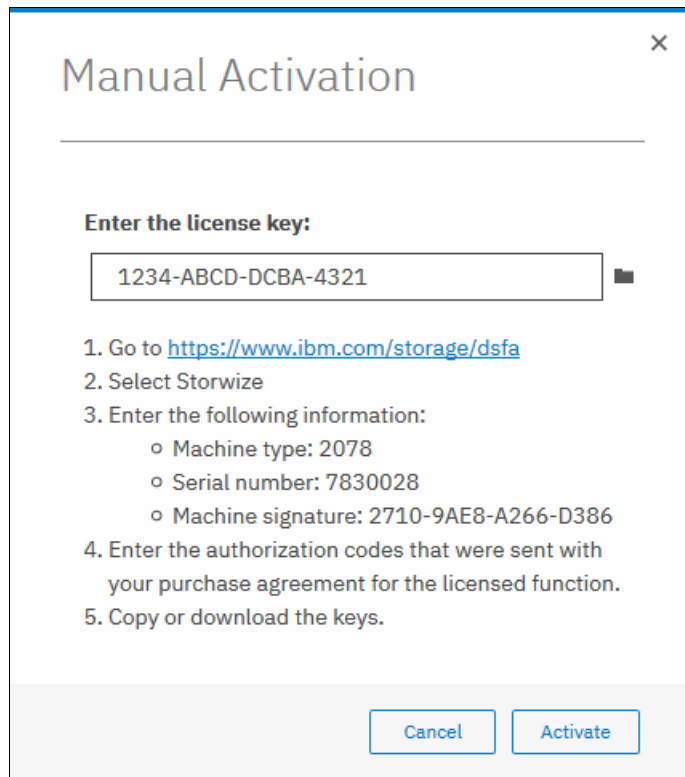

Figure 13-18 Entering an encryption license key
3. You can enter or paste the license key or click the folder icon and upload it to the storage system that the license key file downloaded from DSFA. In Figure 13-18, the sample key is already entered. Click **Activate**.